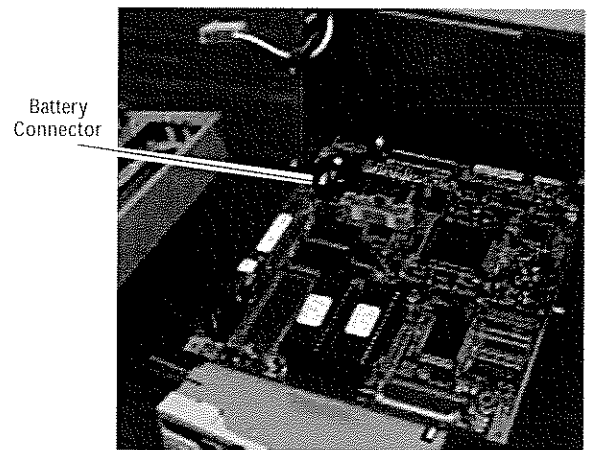

Figure 8-5. Remove Disk Drive
7. Hold disk drive and circuit board to slide out both assemblies until battery connector is exposed. Battery connector is located near the left corner of circuit board (see Figure 8-5).